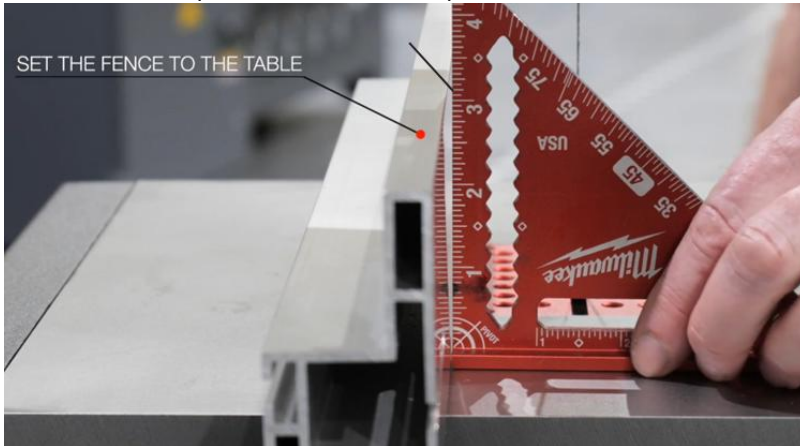

Fig. 41
2. Place a square to the fence and check if the fence is 90° to the table. If there is a gap between the blade and the square as shown (Fig.41), follow the steps below.